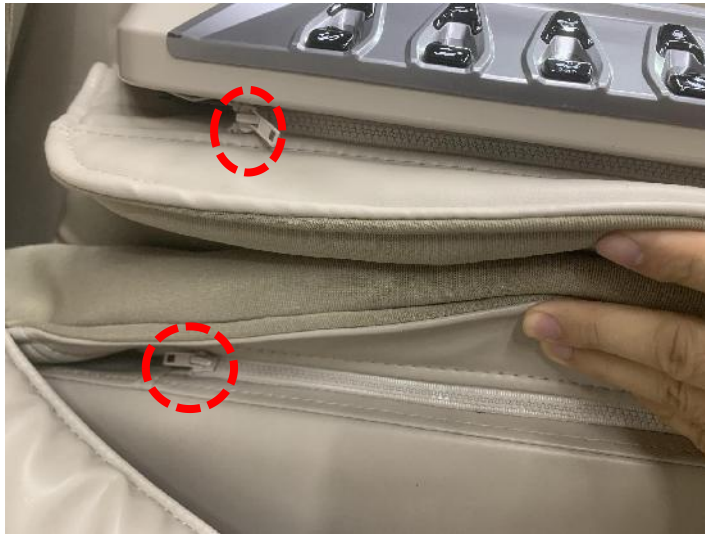

Figure 1
1. Unzip the upper and lower sides (Figure 1)